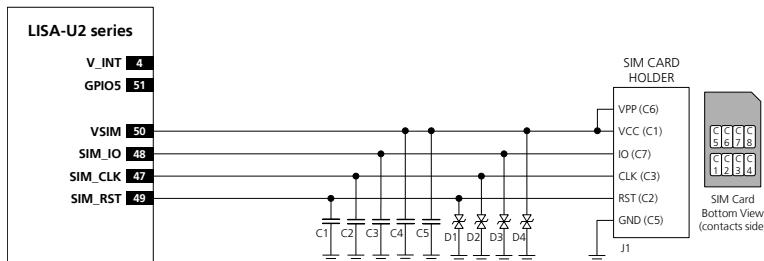
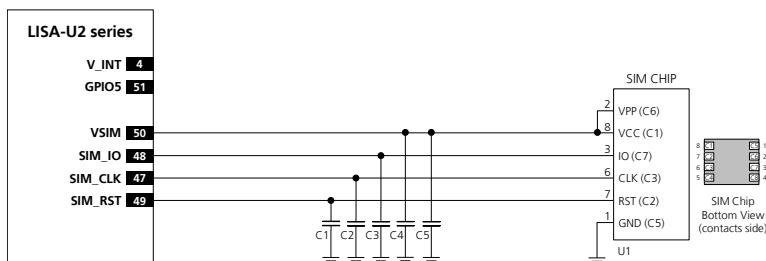
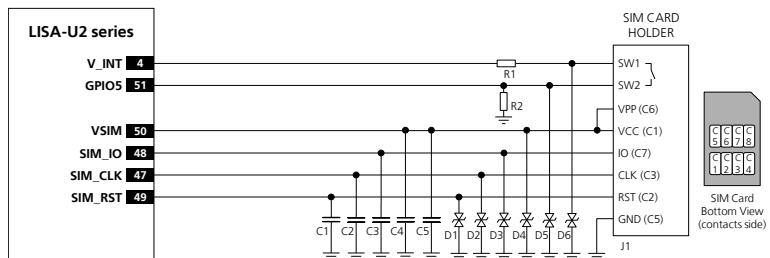
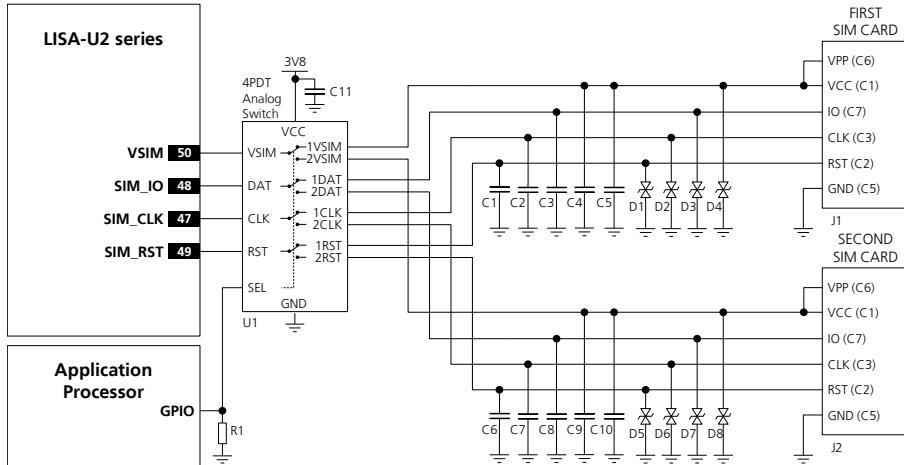

Figure 21: Application circuit for the connection to a single removable SIM card, with SIM detection not implemented
Figure 22: Application circuit for the connection to a single solderable SIM chip, with SIM detection not implemented
Figure 23: Application circuit for the connection to a single removable SIM card, with SIM detection implemented
Figure 24: Application circuit for the connection to two removable SIM cards, with SIM detection implemented
A removable SIM card placed in a SIM card holder must be connected to the SIM card interface of LISA-U2 modules as described in Figure 21, where the optional SIM detection feature is not implemented (see the circuit described in Figure 23 if the SIM detection feature is required).
A solderable SIM chip (M2M UICC Form Factor) must be connected to the SIM card interface of LISA-U2 modules as described in Figure 22, where the optional SIM detection feature is not implemented (see the circuit described in Figure 23 if the SIM detection feature is required).
A removable SIM card placed in a SIM card holder must be connected to the SIM card interface of LISA-U2 modules as described in Figure 23, where the optional SIM card detection feature is implemented so that the module detects by means of the **GPIO5** if a SIM card is present in the connector. The SW1 and SW2 pins of the SIM card holder are connected to a normally-open mechanical switch integrated in the SIM connector. The following cases are available:
- Connect one pin of the mechanical switch integrated in the SIM connector (e.g. the SW2 pin as described in Figure 23) to the **GPIO5** input pin of the module
- Connect the other pin of the mechanical switch integrated in the SIM connector (e.g. the SW1 pin as described in Figure 23) to the **V\_INT** 1.8 V supply output of the module by means of a strong (e.g. 1 kΩ) pull-up resistor, as the R1 resistor in Figure 23
- Provide a weak (e.g. 470 kΩ) pull-down resistor at the SIM detection line, as the R2 resistor in Figure 23
Two SIM cards / chips can be connected to the module's SIM interface, as described in the circuit of Figure 24.
LISA-U2 modules do not support the usage of two SIMs at the same time, but two SIMs can be populated on the application board providing a proper switch to connect only the first SIM or only the second SIM per time to the SIM interface of the modules as described in Figure 24.
In the application circuit represented in Figure 24, the application processor will drive the SIM switch using its own GPIO to properly select the SIM that is used by the module. Another GPIO may be used to handle the SIM hot insertion / removal function of LISA-U2 series modules, which can also be handled by other external circuits or by the cellular module GPIO according to the application requirements.
The dual SIM connection circuit described in Figure 24 can be implemented for SIM chips as well, providing proper connection between SIM switch and SIM chip as described in Figure 22.
If it is required to switch between more than two SIMs, a circuit similar to the one described in Figure 24 can be implemented: for example, in case of four SIM circuits, using a proper 4-pole 4-throw switch (or, alternatively, four 1-pole 4-throw switches) instead of the suggested 4-pole 2-throw switch.